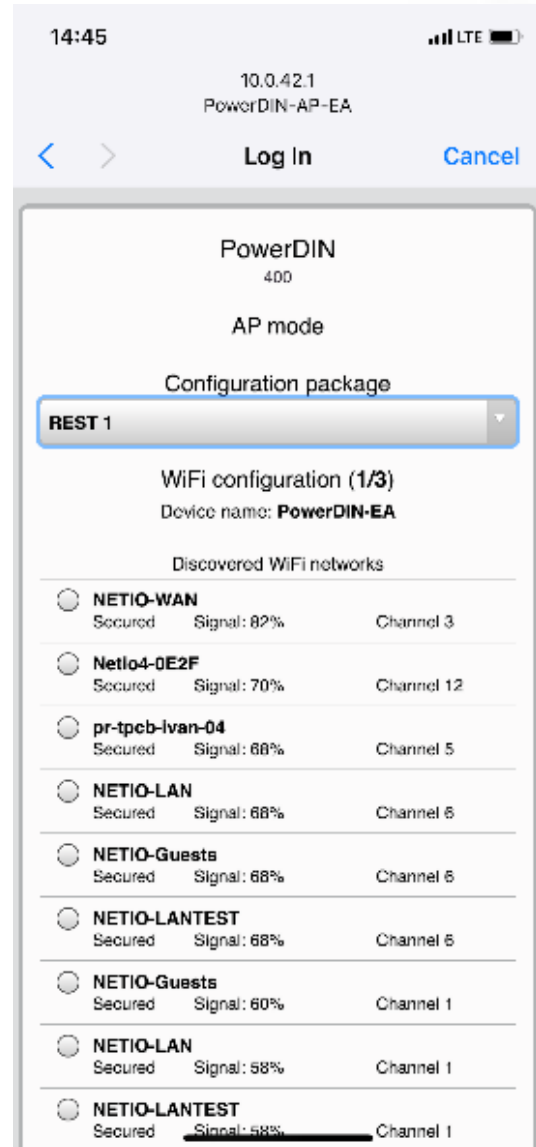

Figure 7 - Web Interface in AP mode
- Device configuration page should open automatically. If not, open a web browser and enter <http://10.0.42.1> You will see NETIO PowerDIN 4PZ WiFi configuration page. (Figure 7).